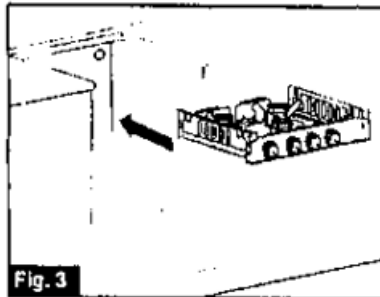

Fig. 3
3. Slide the hob into the cabinet opening. Verify the hob is level from side to side and front to rear. (Fig. 3)